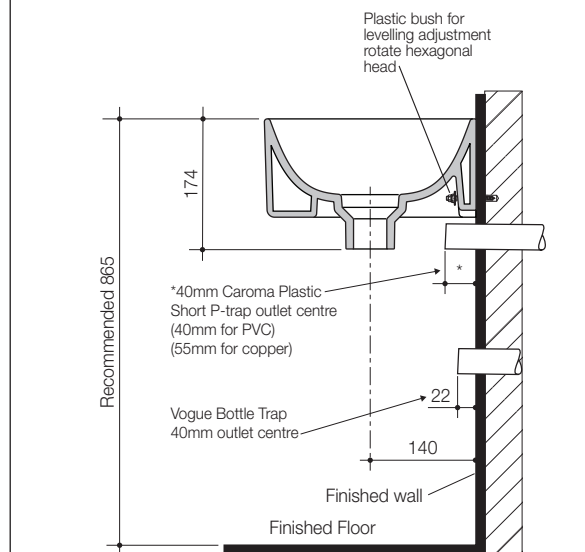

Fig. 3
- 4- Locate basin onto the fixing screws on the wall. Insert plastic bushes, washers and fasten to wall with fixing nut to complete assembly as detailed in **Fig. 3**.
- 5- The plastic bush allows for levelling adjustment if required by rotating the hexagonal head bush, the basin will be slightly raised or lowered as shown in **Fig. 3**.